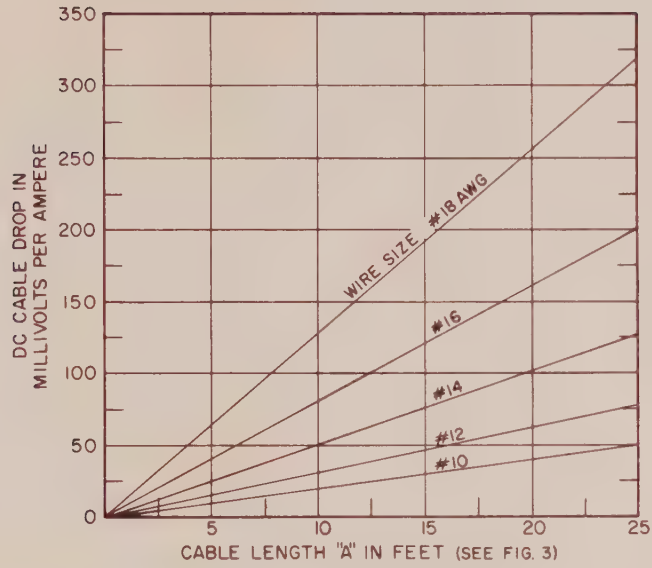
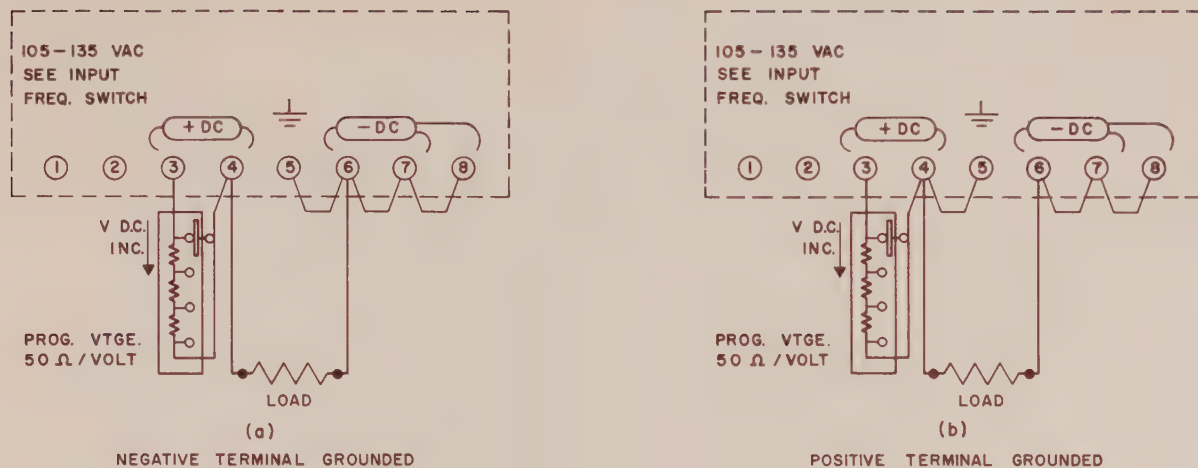

FIG. 1. 2-WIRE CONNECTION (SEE FIG. 4)
FIG. 7. PROGRAMMED VOLTAGE, LOCAL SENSING
2. Determine load requirements, select wire size and length from figures 1, 2 and 3 and choose correct type of supply-load connection from figures 7 and 8 or 10 and 11. Refer to paragraph on Programmed Voltage Connections.